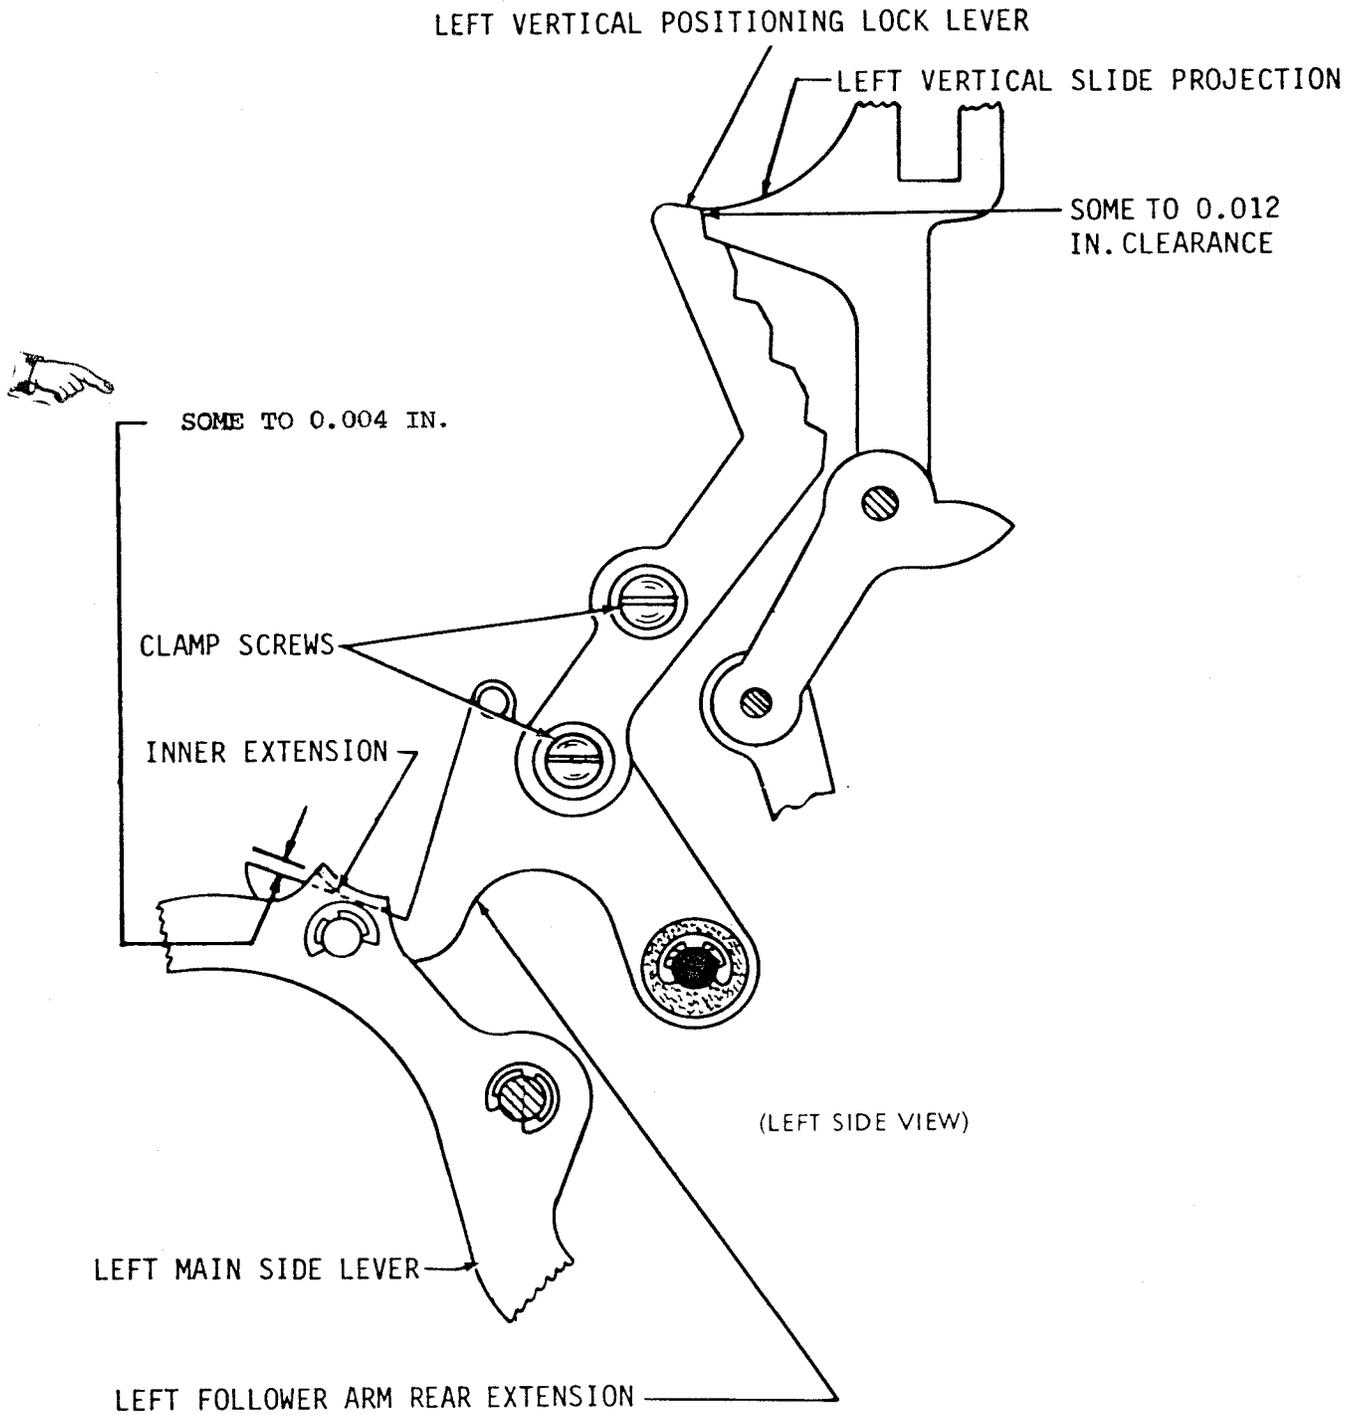

Figure 6-56. Vertical Positioning Lock Lever
(19) Vertical Positioning Lock Lever. Adjust vertical positioning lock lever as follows:
- (a) Refer to figure 6-56.